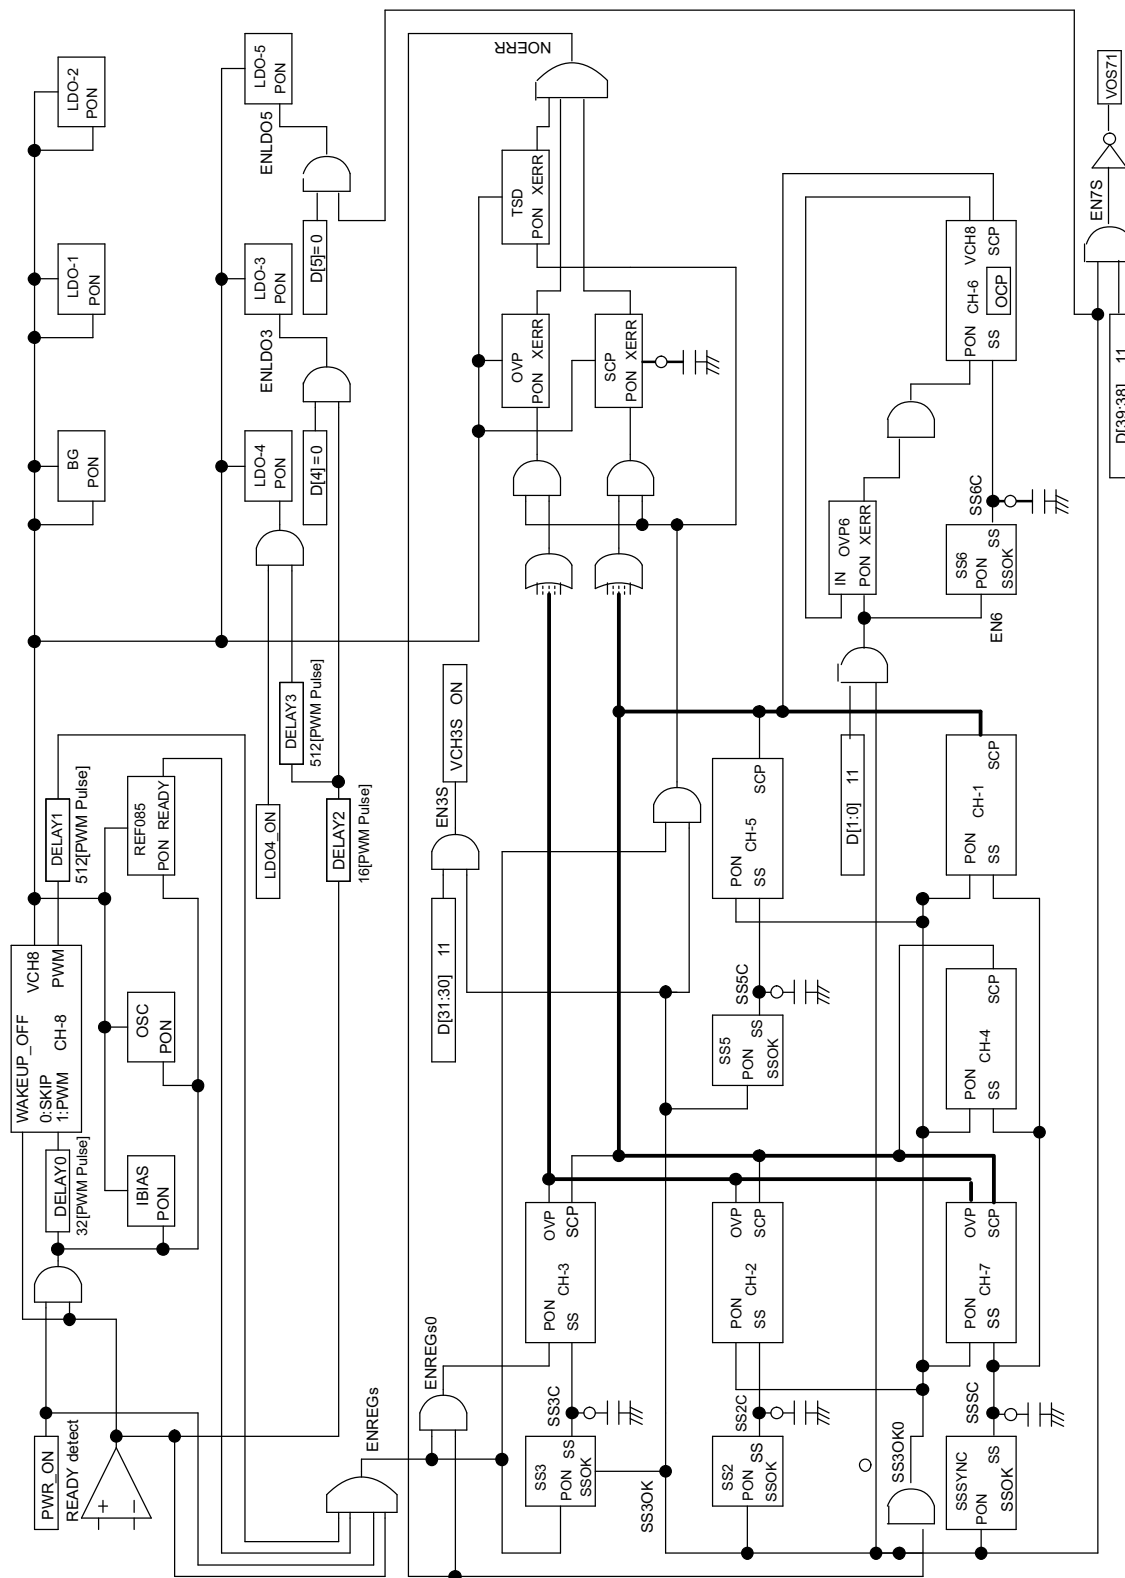
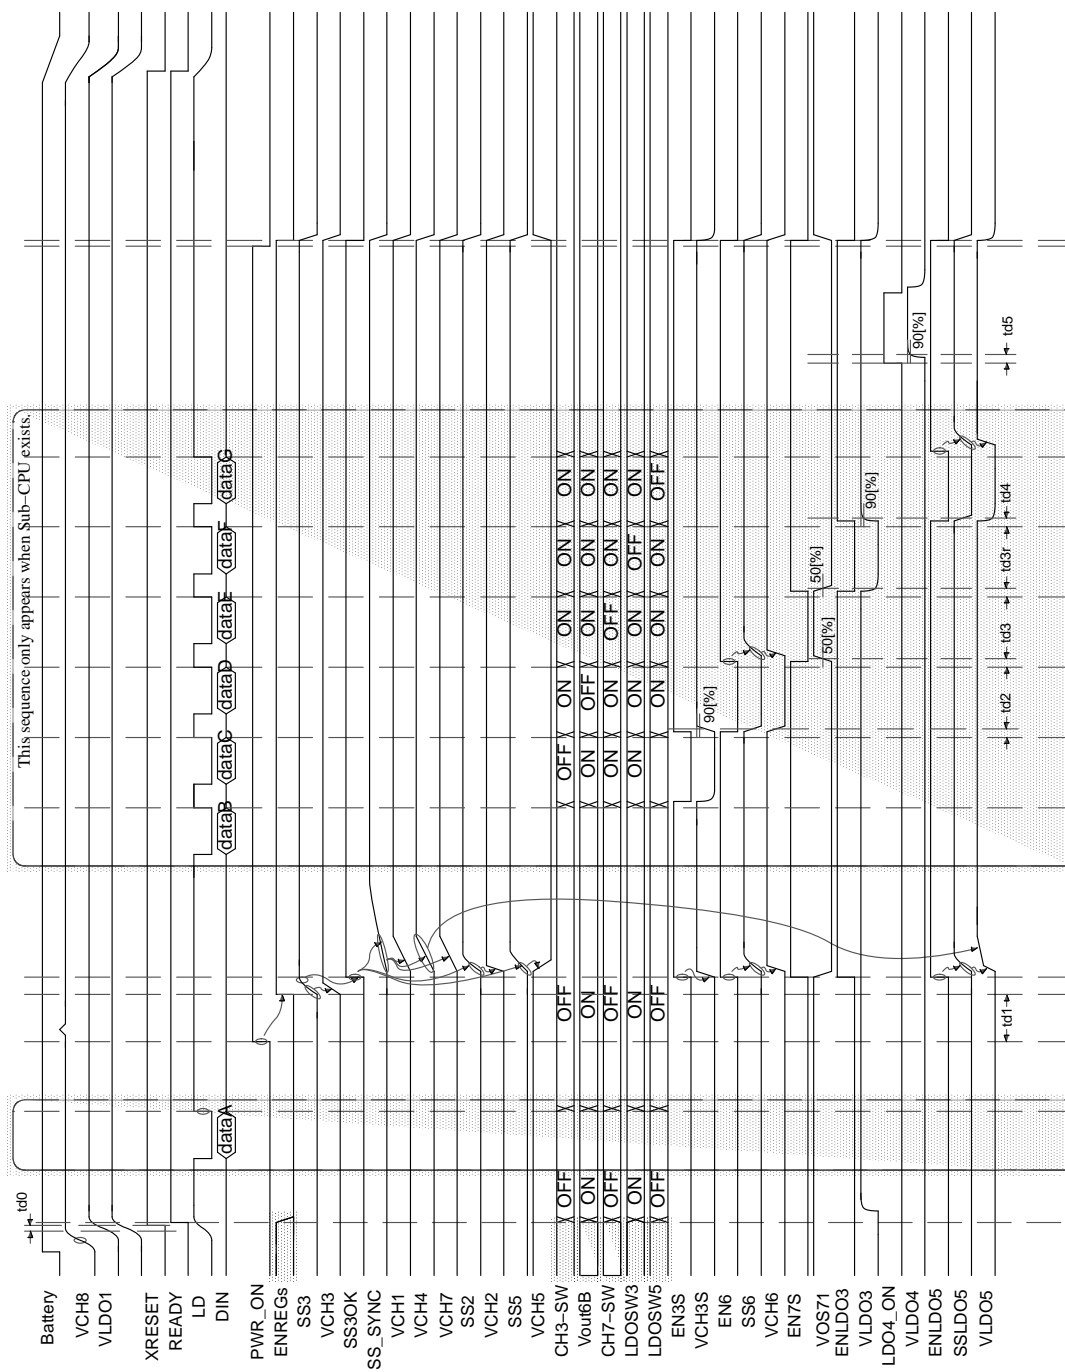

Figure 29. Enable Signal Connections
Figure 30. Operation Sequence Chart
A delay is inserted before LDO-3 is turned on so that the entire system can start up and be stable. LDO-3 cannot be turned on until approximately 30 μ s elapse after the detection of READY. DELAY2 in Figure 29 represents this delay.
To prevent an inrush current during startup, LDO-4 has a delay so that it is not turned on simultaneously with LDO-3. LDO-4 cannot be turned on until 1.03 ms elapses after the detection of READY. This ensures that LDO-4 is not turned on until 1 ms elapses after the startup of LDO-3, which is turned on 30 μ s after READY detection. DELAY3 in Figure 29 represents this delay.
Figure 29 shows the connection of enable signals for the TPS65520. Figure 30 shows a timing chart. In Figure 30, ENREGs, EN3S, EN6, EN7, ENLDO3, and ENLDO5 represent the internal enable signals shown in Figure 29.
In Figure 30, the TPS65520 performs the following operation, described along the time axis in the figure:
2. On the rising edge of PWR_ON, CH-8 exits from skip mode and enters PWM mode. The DELAY0 and DELAY1 blocks, shown in the upper part of Figure 29, insert delays to ensure that the mode transition is over before channels start operating, resulting in a total delay of 544 PWM pulses to complete this process.
The shaded portions of Figure 30 represent the on/off control applied by the Sub-CPU (if used) through the serial interface. If a Sub-CPU is used, control registers are written between the rising edges of XRESET and PWR_ON. Any channels that have been turned off do not start until the Sub-CPU turns them on again. If the Sub-CPU specifies *off* for a channel that has been active from the startup, the channel goes off from that instant.